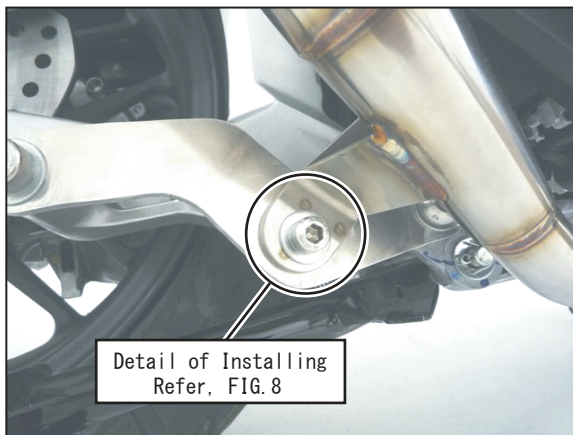

FIG. 7
- 7) Mount Exhaust Pipe onto Exhaust Pipe Bracket #1 with Cap Bolt M8 x 20, Washer M8 x 20 and Flange Nut M8. Tighten bolt by hand only at this stage (See Fig 7, 8).